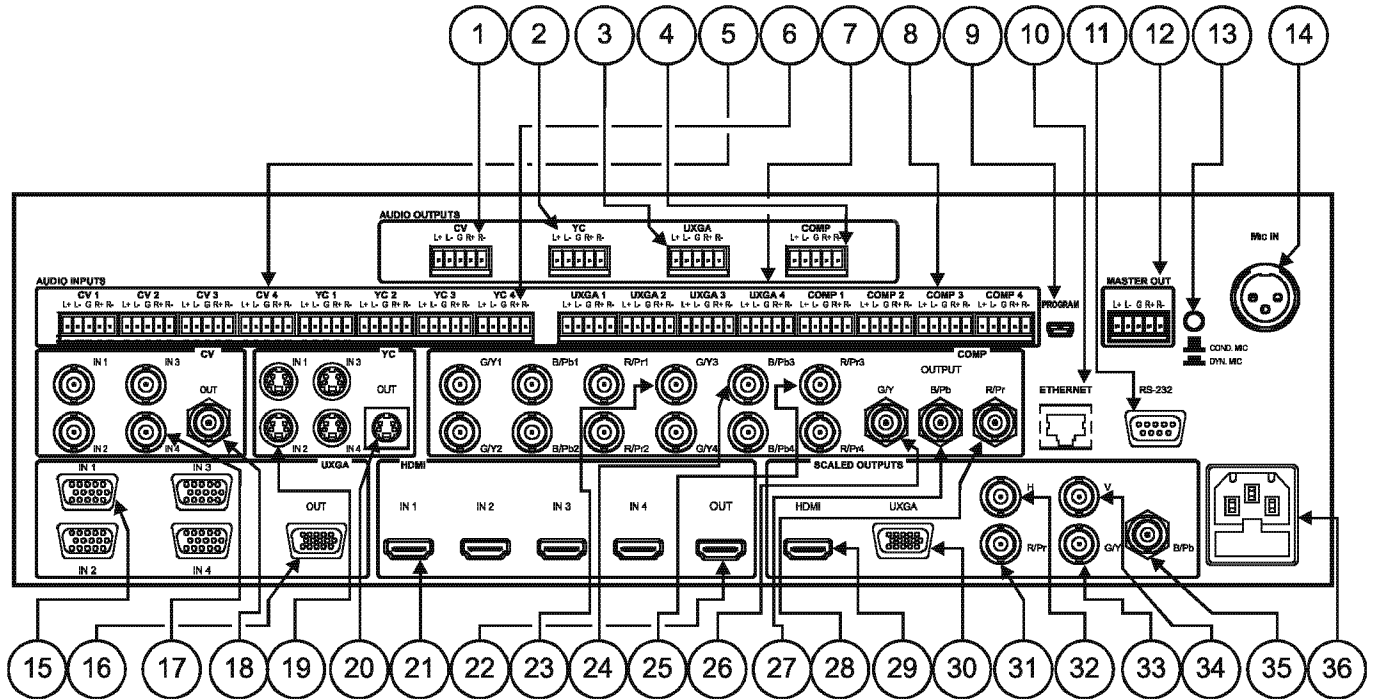

Figure 2: VP-725XLA Presentation Switcher / Scaler Rear Panel
**Figure 2** and **Table 2** define the rear panel of the **VP-725XLA**: